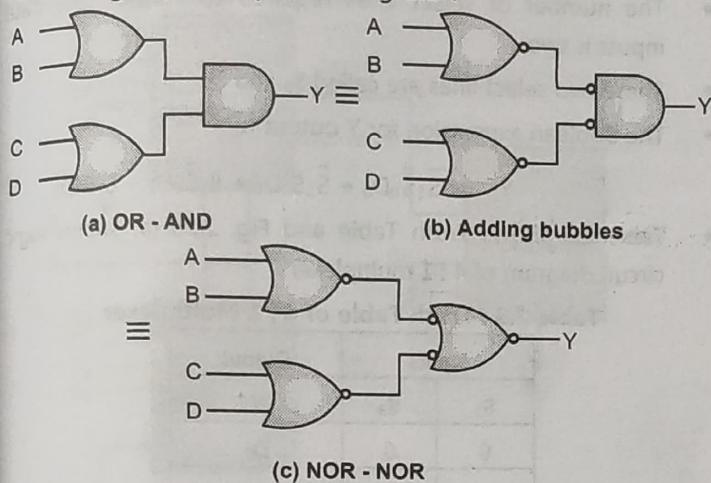

Fig. 2.17 : Converting OR-AND logic to NOR-NOR logic
- Any OR-AND logic can be converted into NOR-NOR logic. For example, refer Fig. 2.17.